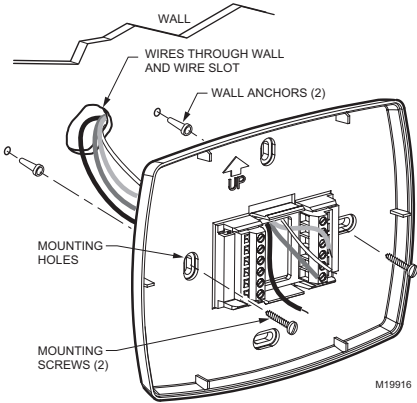

Fig. 2. Mounting wallplate.
- 4. Position the wallplate over the holes, pulling wires through the wiring opening. See Fig. 2.